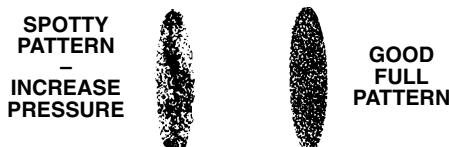

Fig 4
3. Adjusting the spray pattern (See Fig 4.)